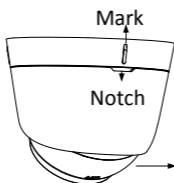

Figure 2-1 Disassemble the Camera
1. Disassemble the turret camera by rotating the camera to align the notch to one of the marks, as shown in Figure 2-1.